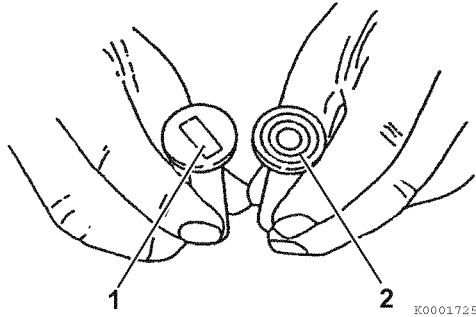

Figure 6-62
1. Inspect the tappet contact surfaces for abnormal wear (1, **Figure 6-62**). Normal wear will be even as shown in (2, **Figure 6-62**). Slight surface defects can be corrected using an oilstone.